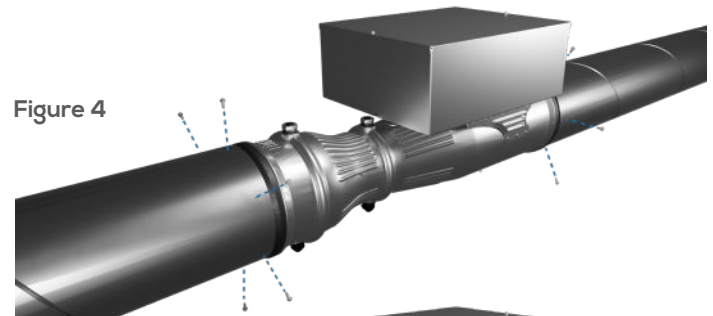

Figure 4
Attach the air valve to the ductwork using a minimum of six (6) sheet metal screws (see Figure 4). Ensure screws do not interfere with the Series 200 operation or airflow.